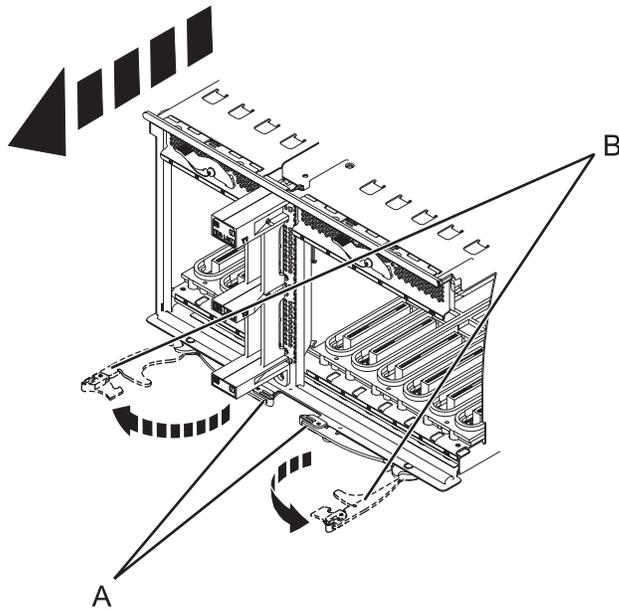

Figure 82. Removing the I/O system board
12. Squeeze the release latches (**A**) and pull the levers (**B**) out away from the system, as shown in Figure 82.